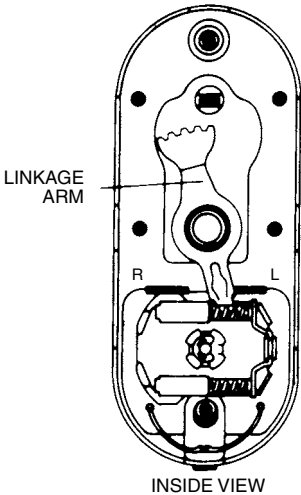

Figure 13.78 Changing hand, Step 9.
9. Install the linkage arm (Fig. 13.78).